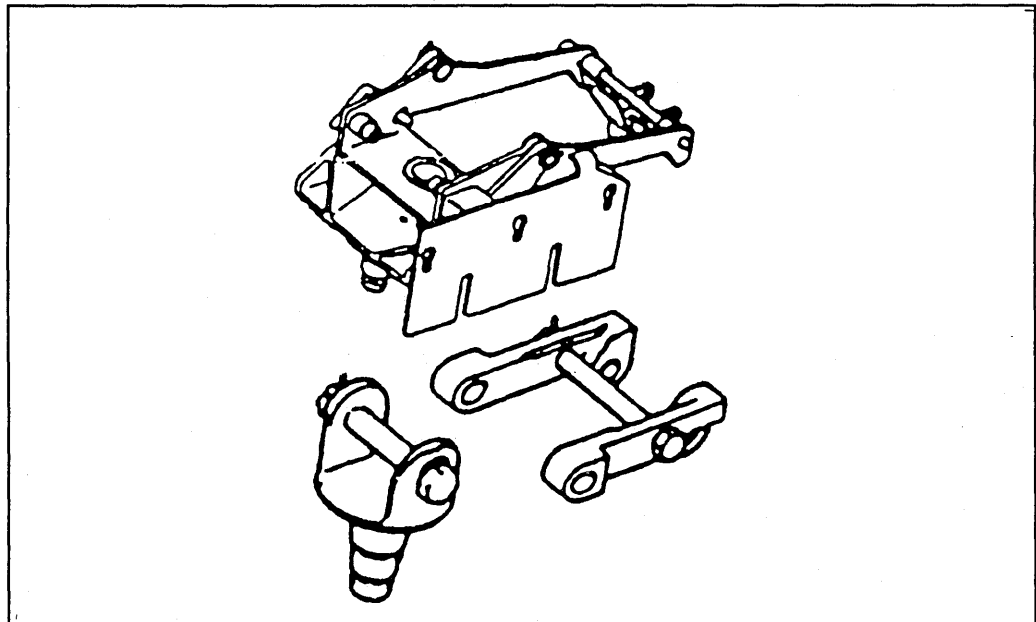

Figure 1-13. MK64 gun cradle.
d. **MK64 Gun Cradle Mount.** This vehicle mount was primarily designed for the M2. However, because of its versatility, the MK64 will accept the MK 19 also (using the M2 mounting adapter assembly). The MK64 can be mounted on the following vehicles—M151 series, M966 HMMWV armament carrier, and the M113 series (Figure 1-13).